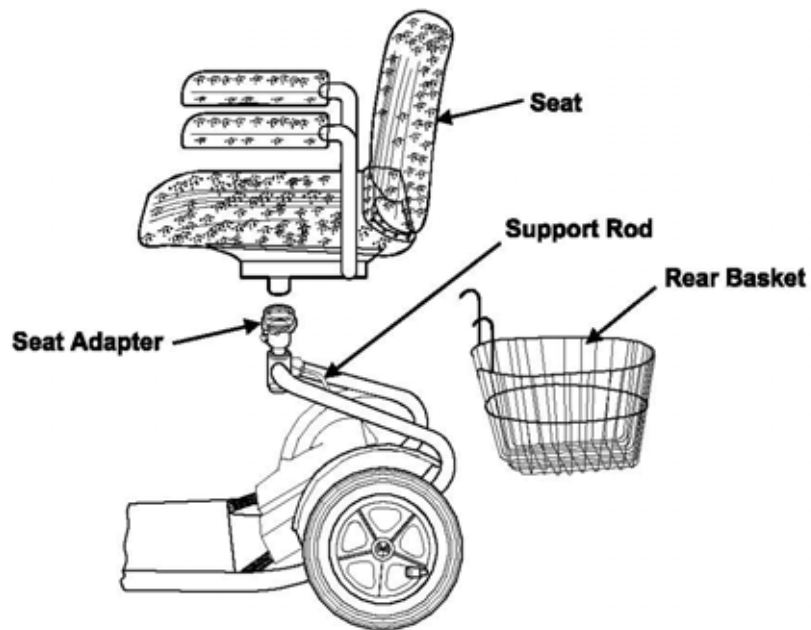

Figure 8.
- a. Install the Rear Basket by placing it on Support Rod welded to the rear frame. (See Fig. 8).